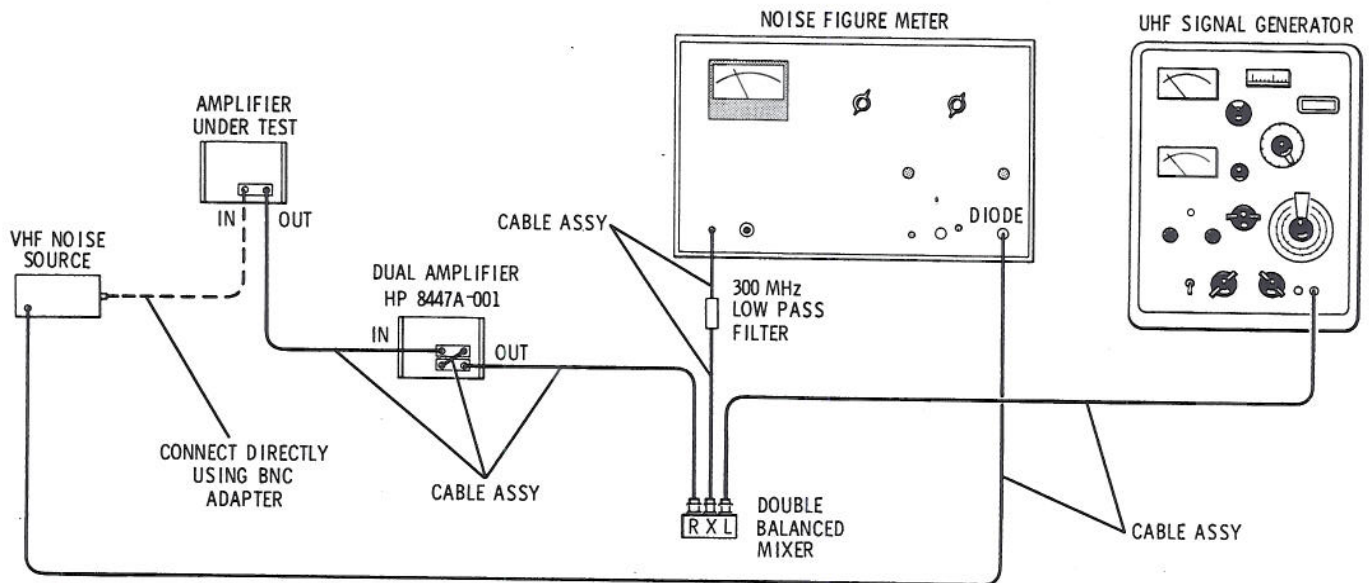

Figure 4-7. Noise Figure Test Setup
1. Connect the test setup as shown in Figure 4-7. Make the following control settings: